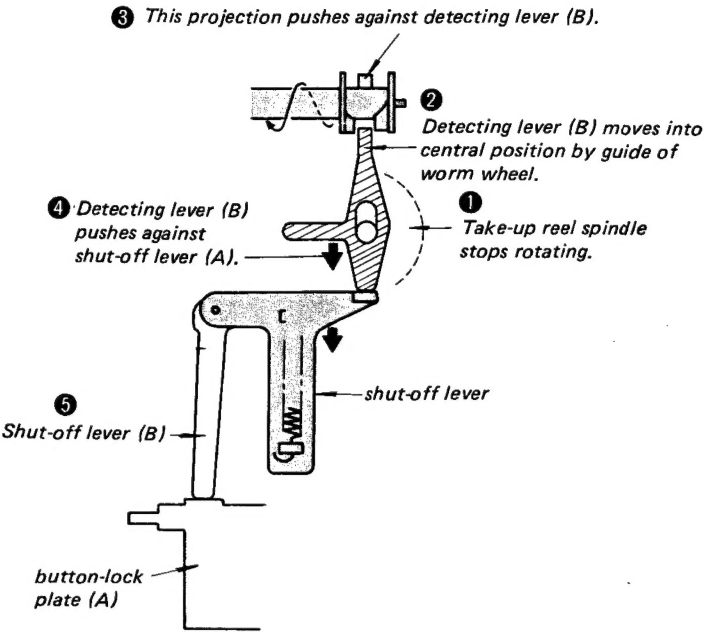

Fig. 1-2.
When the take-up reel stops rotating, the worm wheel activates the automatic shut-off mechanism. This operation is made by shut-off lever (B) pushing against button-lock plate (A) as shown in Fig. 1-2.